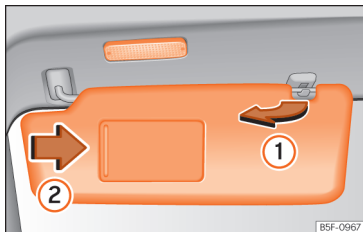

Fig. 88 Sun visor
- The sun visor can be pulled out of its mounting and turned towards the door »» Fig. 88 ①.